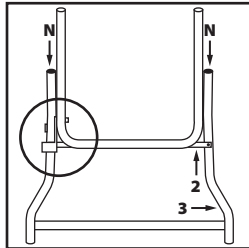

Fig. 5
- Ensure that component **4** is the right way round and that the latch on component **3** engages the latching pin on component **4** correctly (**Fig. 5**).